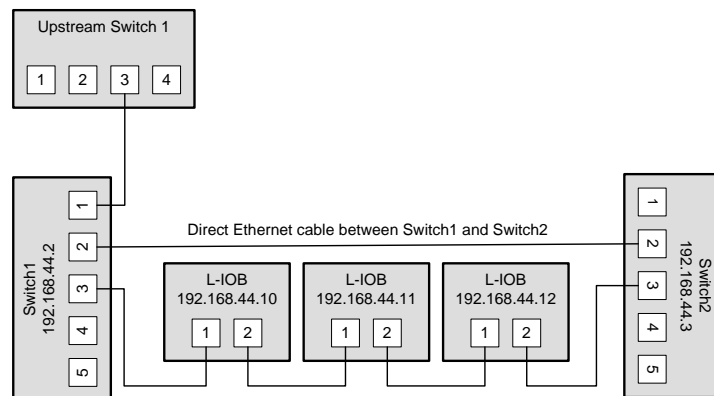

Figure 103: Single upstream connection.
**Single upstream connection:** Switch1 (or Switch2, but not both) is connected to the upstream network while Switch2 only provides a redundant path to the LOYTEC devices. The redundant path is created by a direct Ethernet cable between Switch1 and Switch2 which needs to be plugged into a lower-numbered port than the L-IOB devices are connected to. If this is not possible, the STP port priority for the cross-connection cable needs to be set to a low value. The RSTP domain should be restricted to Switch1 and Switch2. This can be done by enabling a BPDU filter on the port on Upstream Switch 1. This will block all RSTP packets to enter the upstream network. A sample setup for this topology is shown in Figure 103.